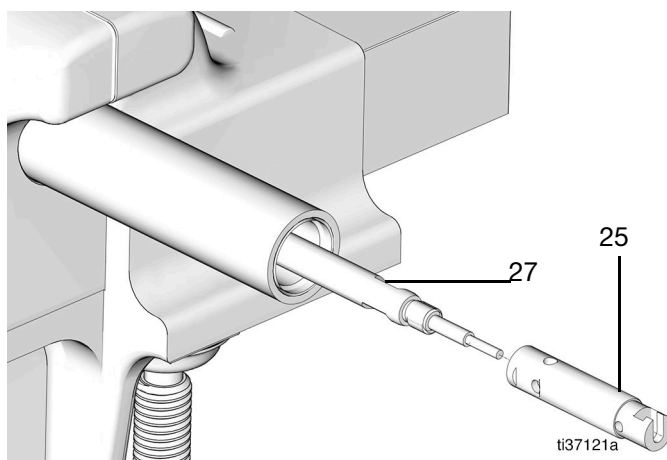
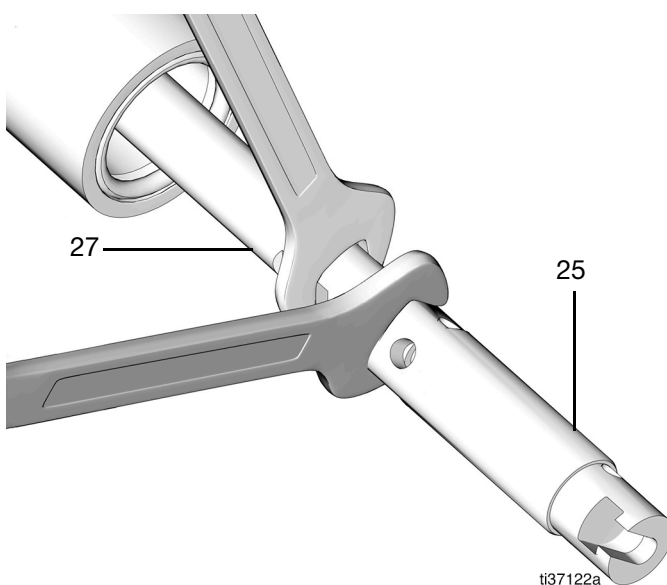

FIG. 57
FIG. 58
- Apply medium strength thread locking compound on the threads of the pump rod (27).
- Place the pump piston (25) on the end of the pump rod (27) and tighten using wrenches (torque 10 ft-lb/13.6 N•m) (FIG. 57 and FIG. 58).